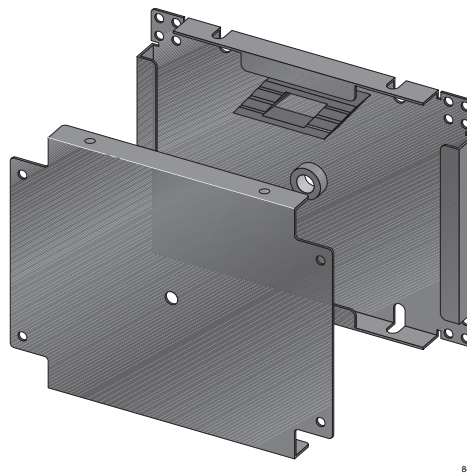

Figure 19. Two-Part Metal Splice Tray
2. Using a flat-head screwdriver, open the splice tray and separate the two halves, as shown in Figure 19.